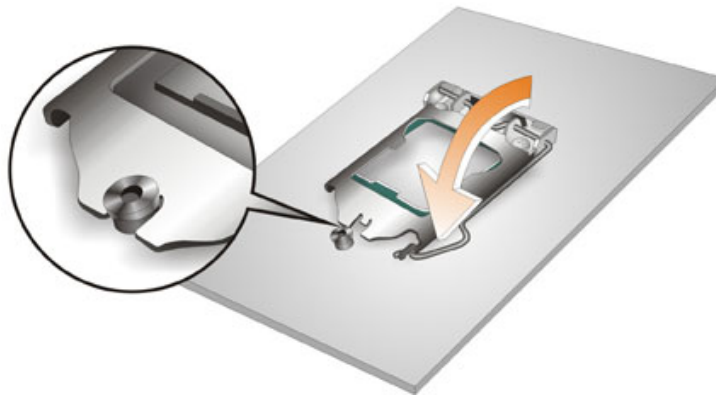

Figure 3-6: Close the Socket LGA1155
Step 8: Close the CPU socket. Close the load plate and pull the load lever back a little to have the load plate be able to secure to the knob. Engage the load lever by pushing it back to its original position (**Figure 3-6**). There will be some resistance, but will not require extreme pressure.